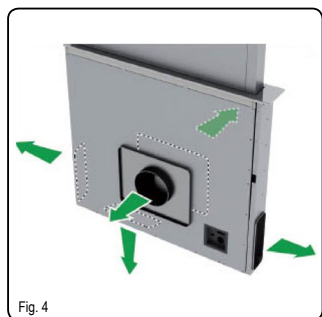

Fig. 4
7. If using an external motor, install the motor in the required position, and then fit the ducting from the motor to the downdraft. There are 5 air duct positions on the downdraft to choose from (Fig.4).